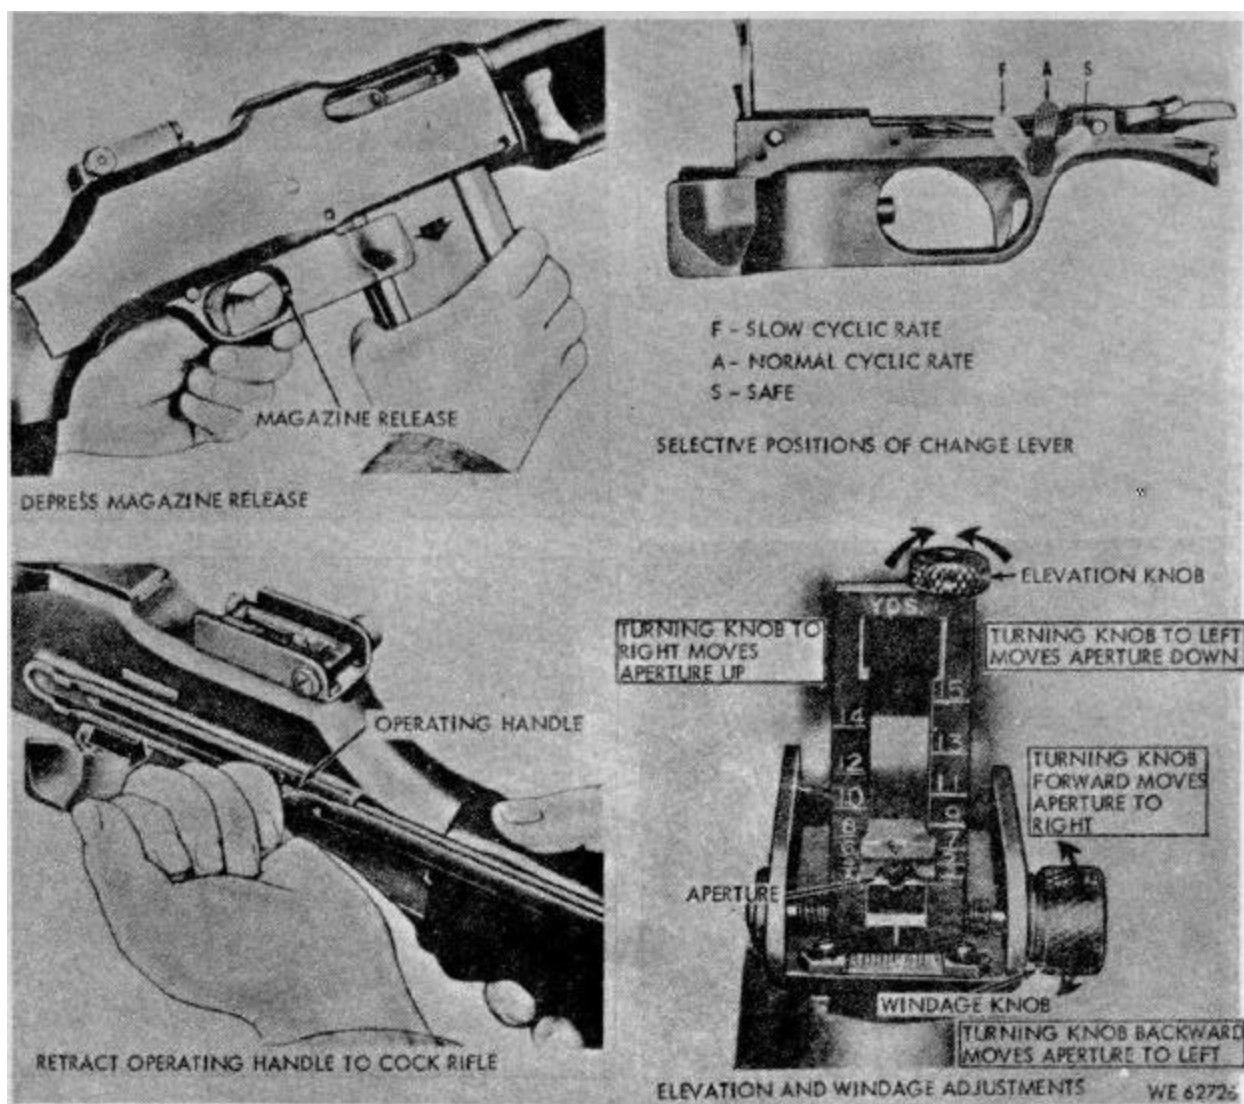

Figure 2-1. Controls.
Refer to figure 2-1 for controls and their functions.
b. Loading the Rifle. Before loading the rifle, set the change lever to S (safe position, fig. 2-1). The weapon is cocked before a magazine
b. *Change Lever*. The automatic rifle has capabilities for two distinct cyclic rates of fire (fig. 2-1). This determination is made by the appropriate positioning of the change lever. There are three possible positions for this change lever. Note that repositioning of the change lever does not necessitate the cocking of the weapon.
c. *F Setting*. With the change lever in this position (fig. 2-1), the weapon's firing capability is at the slow cyclic rate (about 350 rounds per minute). When the trigger is depressed or held back on a loaded weapon, the rifle will continue to fire at this rate until the trigger is released or the magazine is emptied.
d. *A Setting*. Normal cyclic rate is experienced when the change lever is positioned at setting A (about 550 rounds per minute) (fig. 2-1).
e. *S Setting*. When the change lever is positioned at S (fig. 2-1), the automatic rifle cannot fire and is safe. Because the trigger is blocked by the change lever from initiating the firing function, it remains immobile when pressure is applied.